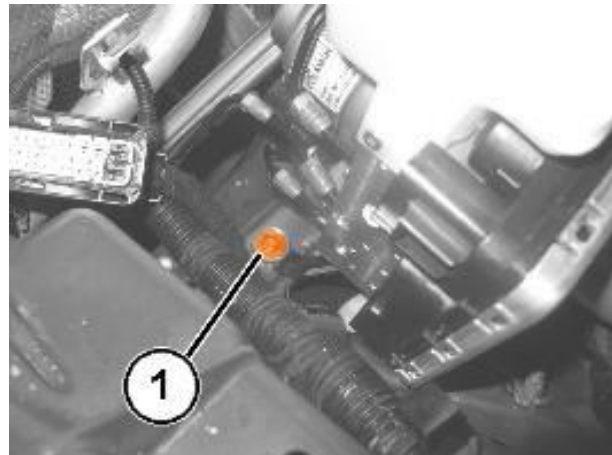

Figure 100 – Mounting Bracket
44. Remove the attaching screw (1) of the ABS control module mounting bracket to the body (Figure 100).